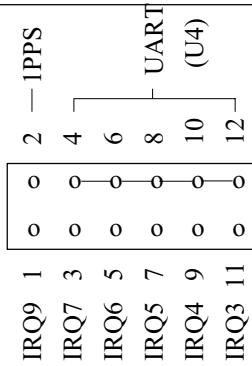

Figure 4. Interrupt jumper block JP2 configuration.
1) Even numbered pins JP2-4 thru JP2-10 are connected to the interrupt request signal of the primary UART (U4). This can jumpered to a desired interrupt, IRQ4 thru IRQ9, of JP2 as shown in Figure 4. **Note:** If IRQ9 is desired, a wire-wrap type connection will be required.
2) JP2-2 is connected to the 1 PULSE/SEC output of the GPS module for use in synchronizing data acquisitions. This can jumpered to a desired interrupt, IRQ4 thru IRQ9, of JP2 as shown in Figure 4. **Note:** If IRQ3 thru IRQ7 is desired, a wire-wrap type connection will be required.